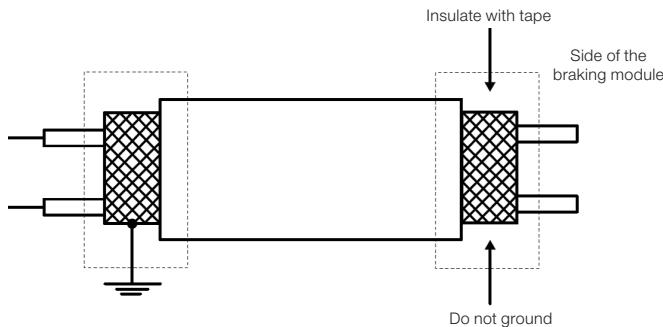

Figure 3.9: Shield connection
- If necessary, use shielded cables. The correct connection of the cable shield is showed in the Figure 3.9 on page 21.